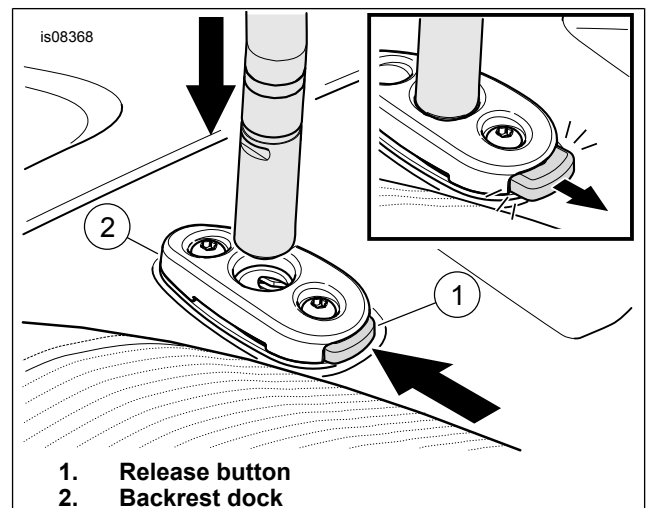

Figure 2. Release Button Locked Position
2. Install the backrest docks (3) using the two screws (4) for each dock. Tighten to 13.56 N·m (120 in-lbs).
3. Refer to Figure 2. Press release button (1) on backrest dock while inserting one leg of the upright. Press release button on other backrest dock while inserting the opposite leg of the upright.
When upright is removed plugs (5) can be installed. Refer to Figure 2. Follow steps 3-5 for installing or removing plugs.